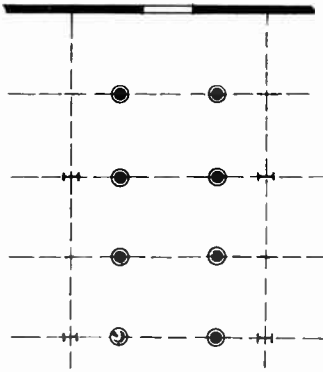

Fig. 3.—DESIGN FOR CENTRAL BAY (1).
- (A) Two fittings on each tie bar—spacing 10 ft. in one direction and 12 ft. in the other. Lights unnecessarily close. (Fig. 3.)